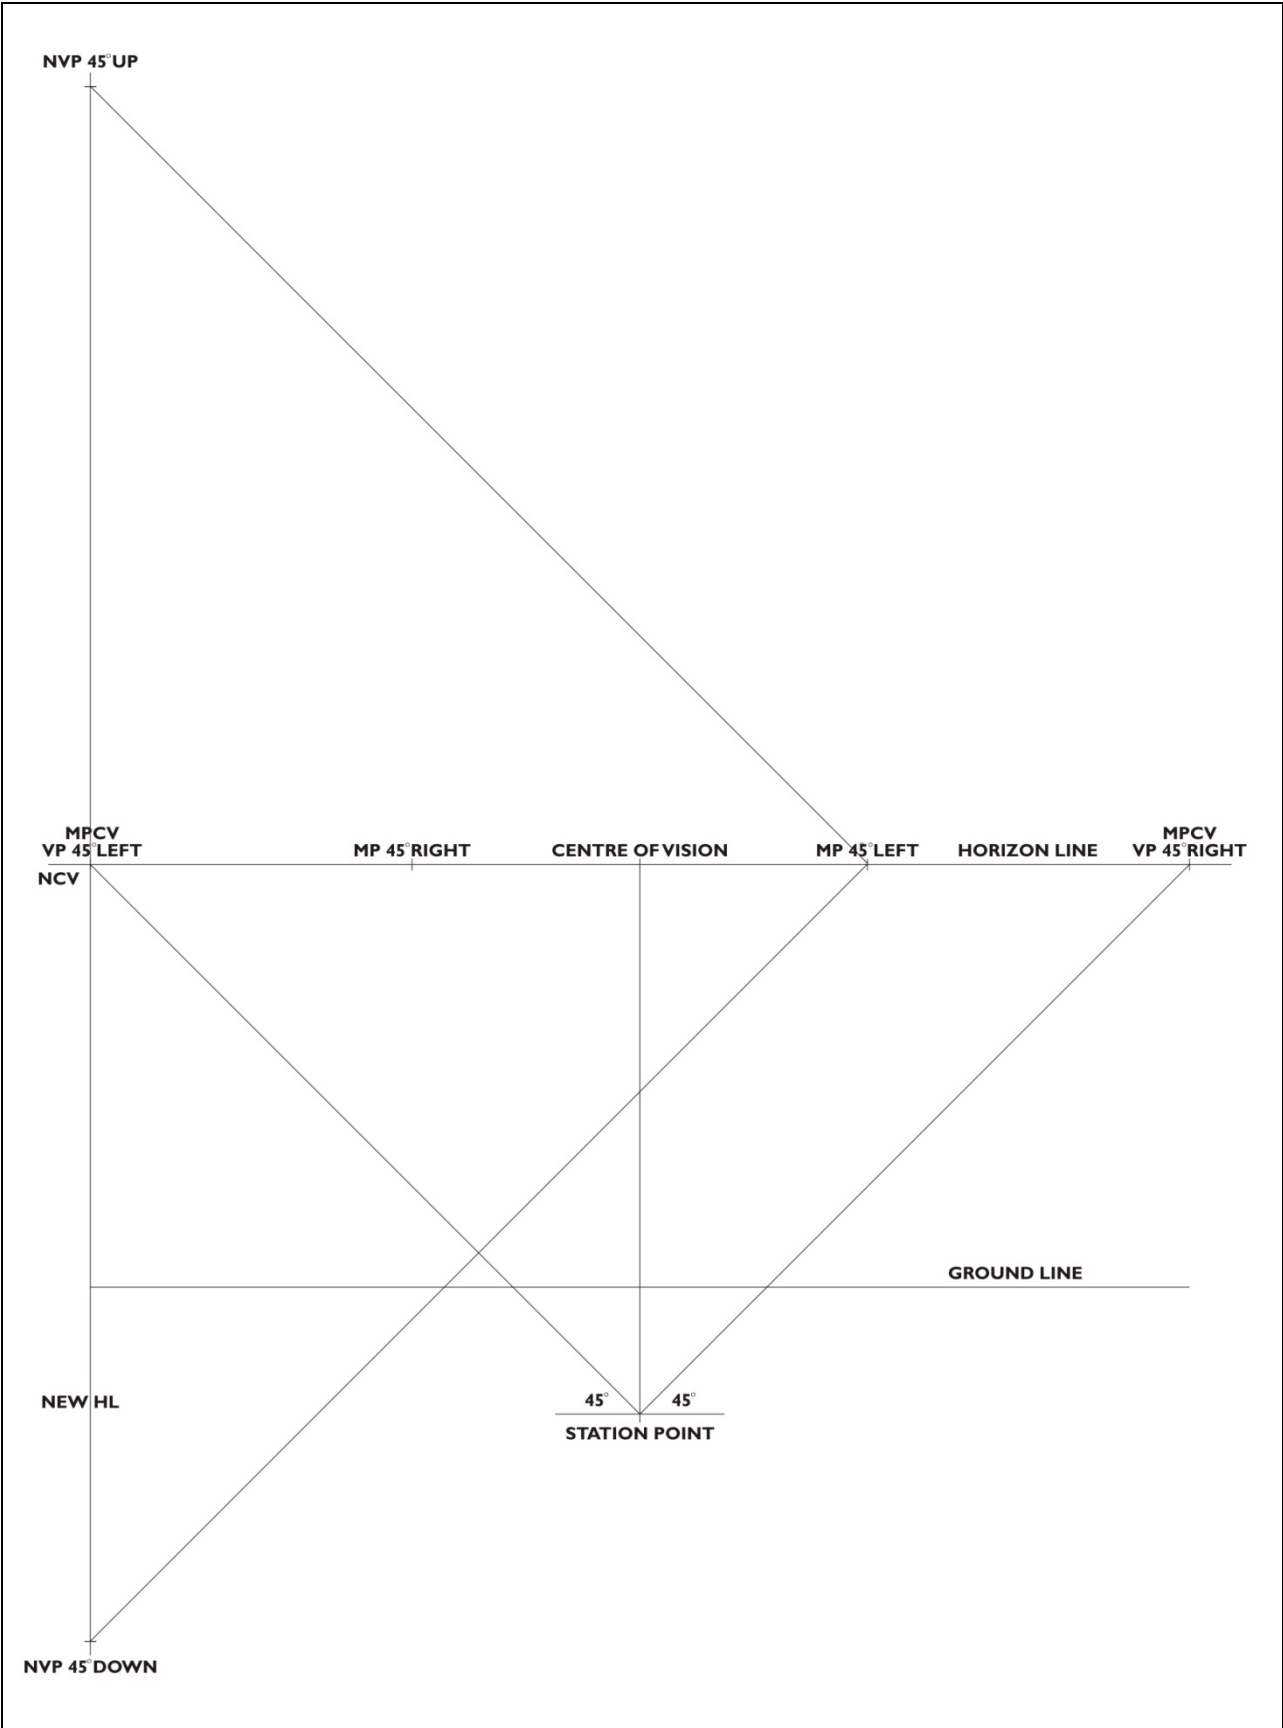

Figure 4.4 Three-point perspective layout
1. Position the centre of vision on the horizon line directly above the station point, both horizontally and vertically centred on the page as shown in Figure 4.1 and as in two point perspective. Refer to Figure 4.4 for information.